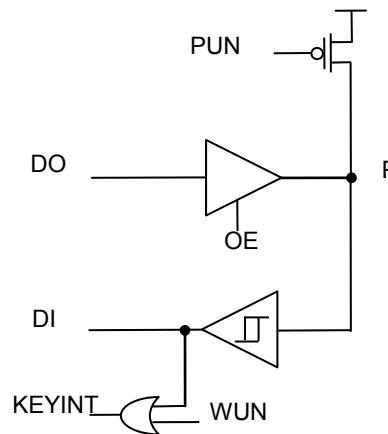

Figure 11.1 Ports I/O block diagram
A8106 has 24 Digital I/O Pins. There are separated to 3 Ports (Port0, Port1 and Port3) and each of the Port pin can be defined as general-purpose I/O (GPIO) or peripheral I/O signals connected to the timers, UART, I2C and SPI functions. Thus, each pin can also be used to wake A8106 up from sleep mode. User can select each pin function by setting register. Each port has itself port register like P0 (0x80), P1 (0x90) and P3 (0xB0) that are both byte addressable and bit addressable. When reading, the logic levels of the Port's input pins are returned. Each port has three registers to setting Pull-up (PUN), Output-enable (OE) and Wake-up enable (WUN). As shown the bellow block diagram, Fig. 11.1. Unused I/O pins should have a defined level and not be left floating. One way to do this is to leave the pin unconnected and configure the pin as a general-purpose I/O input with pull-up resistor.